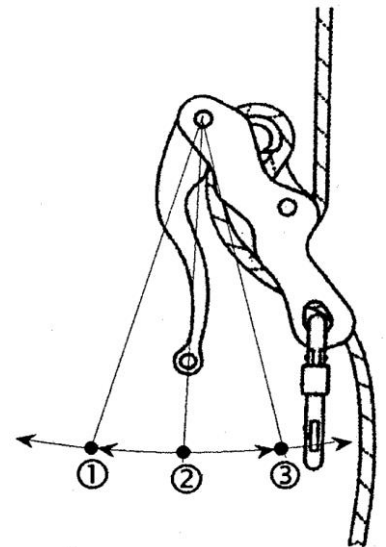

Fig. 4
- Remove Hook and loop fastener retaining strap and remove soft lock on descender (position 1, Fig. 4) by pulling upward on the rope (the end with the snap hook) to ensure the brake mechanism is working properly. Perform the same test with the handle squeezed completely (position 3, Fig. 4). Squeeze the handle to the midpoint (position 2, Fig. 4) while again pulling upward on the rope to ensure the rope slides smoothly through the descender in this position. Re-tie the soft lock so that the descender cannot be inadvertently depressed.
- Proper usage of the descender will allow descent at a controlled, safe rate. The maximum speed of descent should not exceed 6.5 ft/sec. (2. m/sec). If the user's weight is in excess of 265 lbs. (120 kg), The maximum speed of descent should not exceed 3.3 ft/sec. (1m/sec.). By increasing pressure on the handle, the user will activate the braking position feature (position 3, Fig. 4) and the descent will be stopped or considerably slowed. Releasing the handle completely (position 1, Fig. 4) will also activate the braking feature. If additional braking is required, before starting to rappel, the free end of the rope must be through the carabiner, vary the angle of the tail of the descent line against the carabiner frame to control the rate of descent to 3.3 ft/sec. (1m/sec.) maximum. Make sure the action of the rope will not unscrew the carabiner's gate. (Fig. 11)
- To rappel, slowly squeeze the handle toward the body of the descender with one hand to the midpoint (position 2, Fig. 4) while the other hand controls the free end of the rope to provide additional braking (tailing). Make a slow controlled descent to the ground. If the need arises where the descent must be stopped, re-tie the soft lock so that the descender cannot be inadvertently depressed.
- Test the function of the descender with the handle released (position 1, Fig. 4) by pulling upward on the rope (the end with the snap hook) to ensure the brake mechanism is working properly. Perform the same test with the handle squeezed completely (position 3, Fig. 4). Squeeze the handle to the midpoint (position 2, Fig. 4) while again pulling upward on the rope to ensure the rope slides smoothly through the descender in this position.
- Proper usage of the descender will allow descent at a controlled, safe rate. The maximum speed of descent should not exceed 6.5 ft/sec. (2. m/sec). If the user's weight is in excess of 265 lbs. (120 kg), the maximum speed of descent should not exceed 3.3 ft/sec. (1m/sec.). By increasing pressure on the handle, the user will activate the braking position feature (position 3, Fig. 4) and the descent will be stopped or considerably slowed. Releasing the handle completely (position 1, Fig. 4) will also activate the braking feature. If additional braking is required, before starting to rappel, the free end of the rope must be through the carabiner, vary the angle of the tail of the descent line against the carabiner frame to control the rate of descent to 3.3 ft/sec. (1m/sec.) maximum. Make sure the action of the rope will not unscrew the carabiner's gate (Fig. 11).
- To rappel, slowly squeeze the handle toward the body of the descender with one hand to the midpoint (position 2, Fig. 4) while the other hand controls the free end of the rope to provide additional braking (tailing). Make a slow controlled descent to the ground. If the need arises where the descent must be stopped, re-tie the soft lock so that the descender cannot be inadvertently depressed
- Inspect for proper operation of both the brake mechanism and the descent handle mechanism. Also make sure that the rope slides smoothly through the unit when the handle is depressed to the midpoint (position 2, Fig.4).